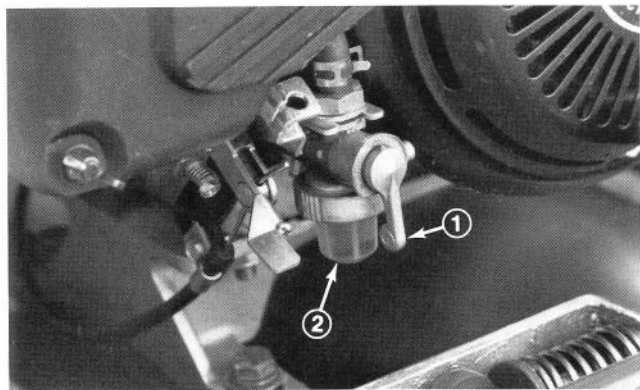

Figure 35
1. Close fuel shut off valve and unscrew bowl from filter body (Fig. 35).